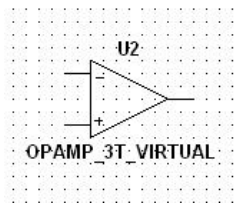

Figure 2. Operational Amplifier
7. The schematic will now look as it does in Figure 2.